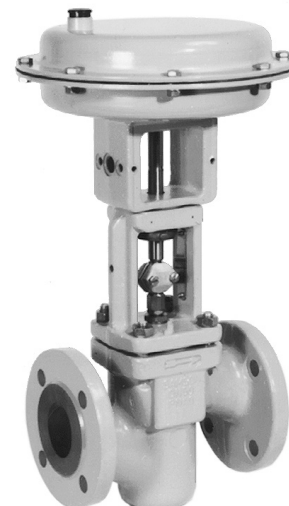

Fig. 2 · Type 3241-7
- **Type 3241-7** (Fig. 2) · DN 15 to 150 with Type 3277 Pneumatic Actuator for integral positioner attachment (see T 8310-1 EN)